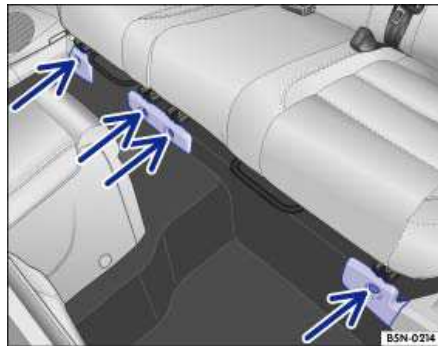

Fig. 100 Front attachment of the rear seat.
8. Unclip the small covers (not pictured) on the hexagonal nuts in the rear footwell ⇒ fig. 100 (arrows).
9. Remove all hexagonal nuts ⇒ fig. 100 (arrows) with the lug wrench.
12. Remove the hexagonal nuts in the rear of the footwell again, set the 3 plastic covers ⇒ fig. 100 on the studs and screw on with the hexagonal nuts.
13. Tighten the hexagonal nuts ⇒ fig. 100 (arrows) to 44 ft-lbs (60 Nm) using a torque wrench. If no torque wrench is available, tighten the hexagonal nuts using the lug wrench and have the torque checked at a qualified workshop as soon as possible.
14. Clip on the small covers (not pictured) on the hexagonal nuts ⇒ fig. 100 (arrows).